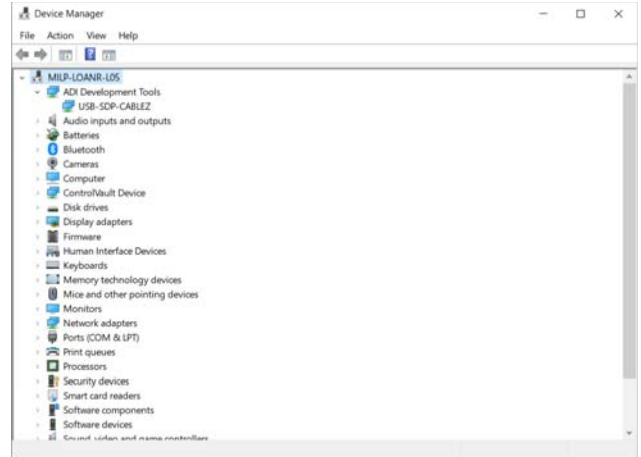

Figure 11. Device Manager Window
7. To verify that the **USB-SDP-CABLEZ** installed properly, open the **Device Manager** on the PC. With the USB-SDP-CABLEZ dongle connected to PC, verify that the USB-SDP-CABLEZ appears under the **ADI Development Tools**, as shown in Figure 11.